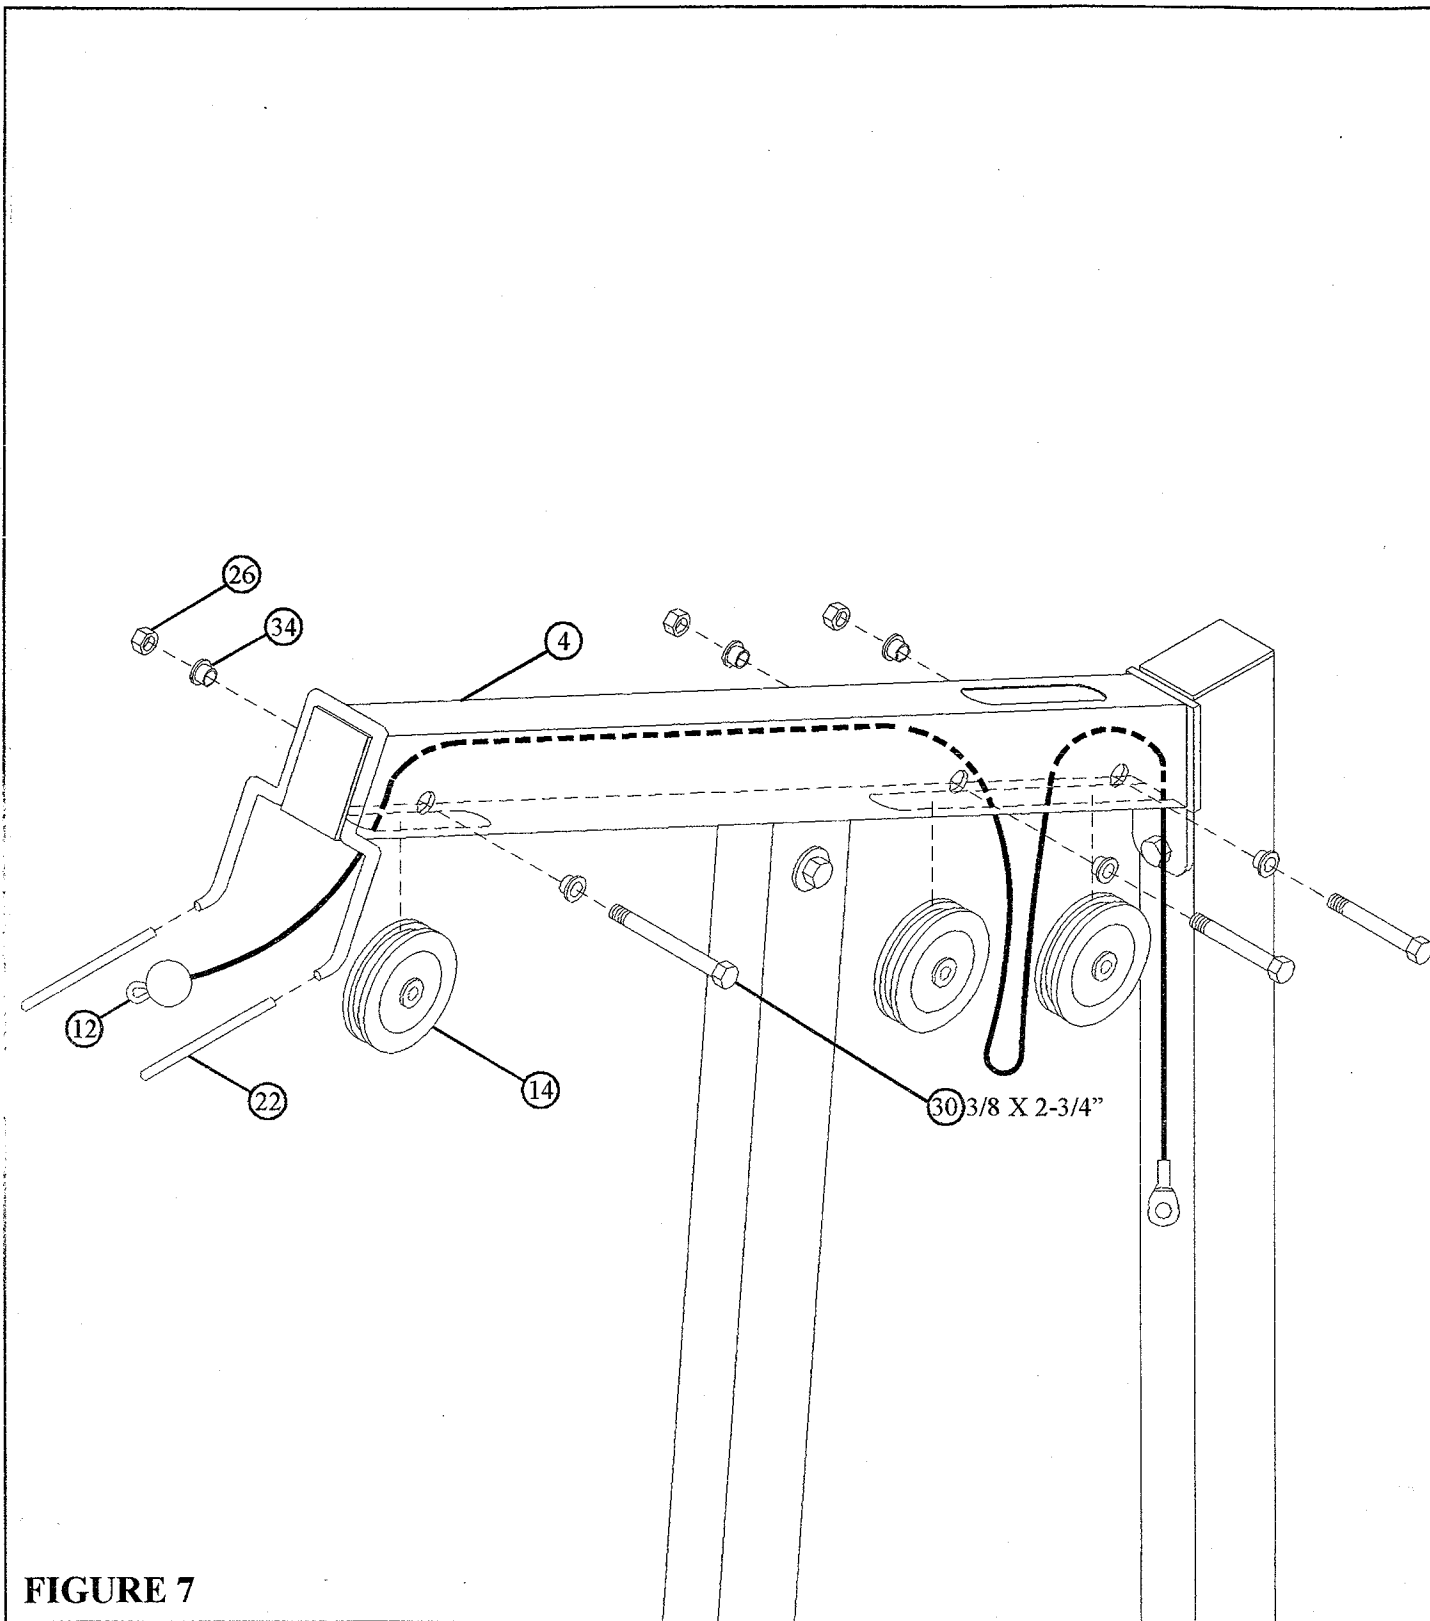

FIGURE 7
- Route the CABLE (12) through the TOP BOOM (4) as shown in FIGURE 7.
- **SECURELY** assemble three 3-1/2" PULLEYS (14) to the slots in TOP BOOM (4) using three 3/8 X 2-3/4" BOLTS (30), six 3/8" FLANGE SPACERS (34), and three 3/8" LOCK NUTS (26) as shown in FIGURE 7. (NOTE: Make sure the cable is routed over all the pulleys.)
- Slide two 5" VINYL CAPS (22) over the lat bar holder bracket on the TOP BOOM (4) as shown in FIGURE 7.